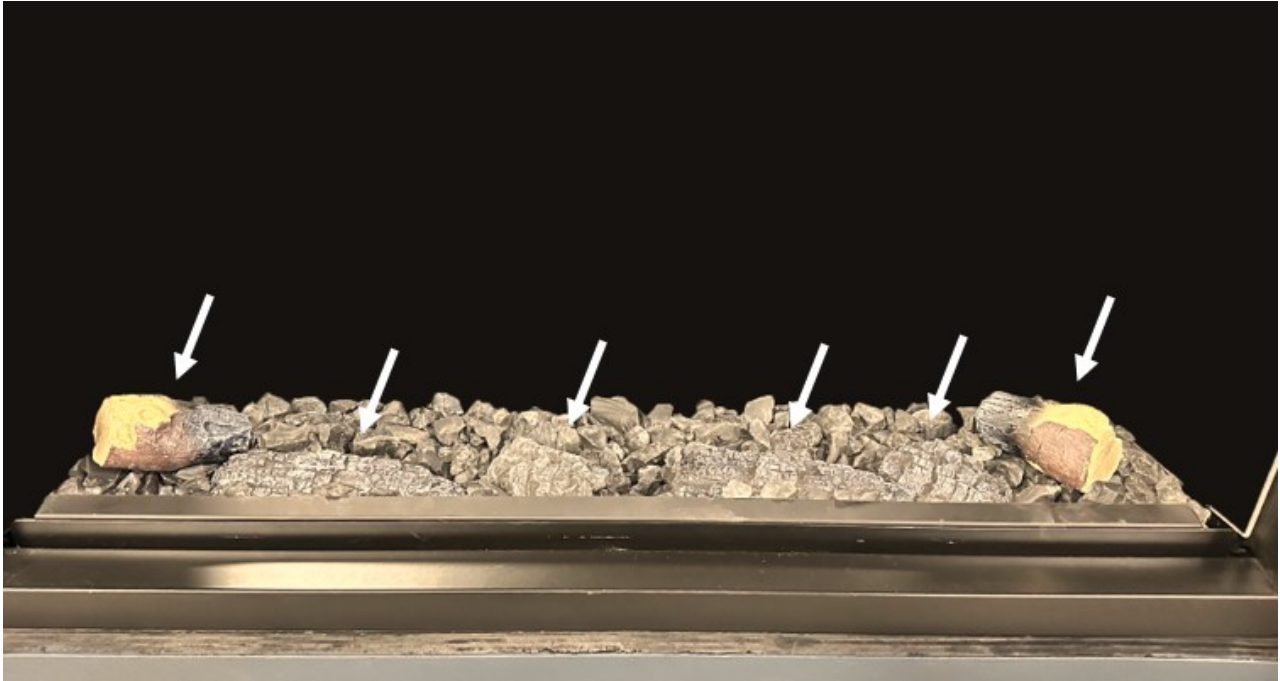

Figure 4.4 - Base logs.
- Figure 4.4 shows the (4) charred logs installed. These are positioned in front of the pulsating ember bed LEDs. The two bark and char logs are on both sides of the fireplace.